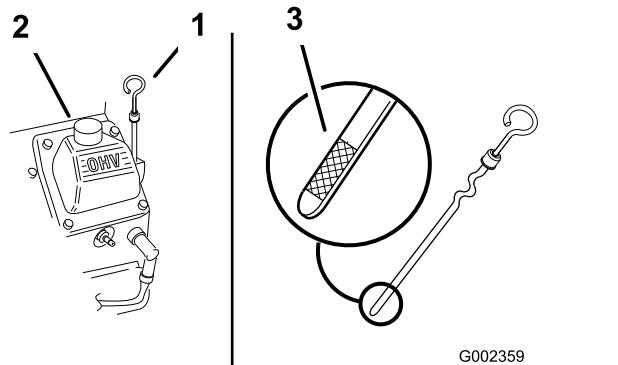

Figure 45
2. Clean around the oil dipstick (Figure 45) so dirt cannot fall into the filler hole and damage the engine.
3. Remove the dipstick, wipe it clean, and install until it is fully seated (Figure 45).
4. Remove the dipstick and check the oil level. The oil level should be between the "F" full and "L" low marks on the dipstick (Figure 45).
5. If the oil level is below the "L" low mark, remove the filler tube cap (Figure 45) and add the specified oil until the level reaches the "F" full mark on the dipstick.